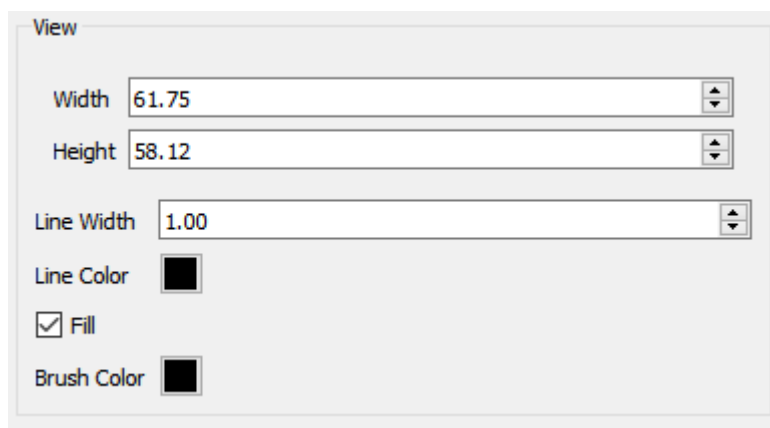

Figure 13.26: The view tool for an ellipse.
- To add an ellipse or rectangle, click the  or  icon in the main toolbar. Click and then drag in the workspace to draw the shape. Properties can be adjusted with the View tool in the toolbar shown in Fig. 13.26.